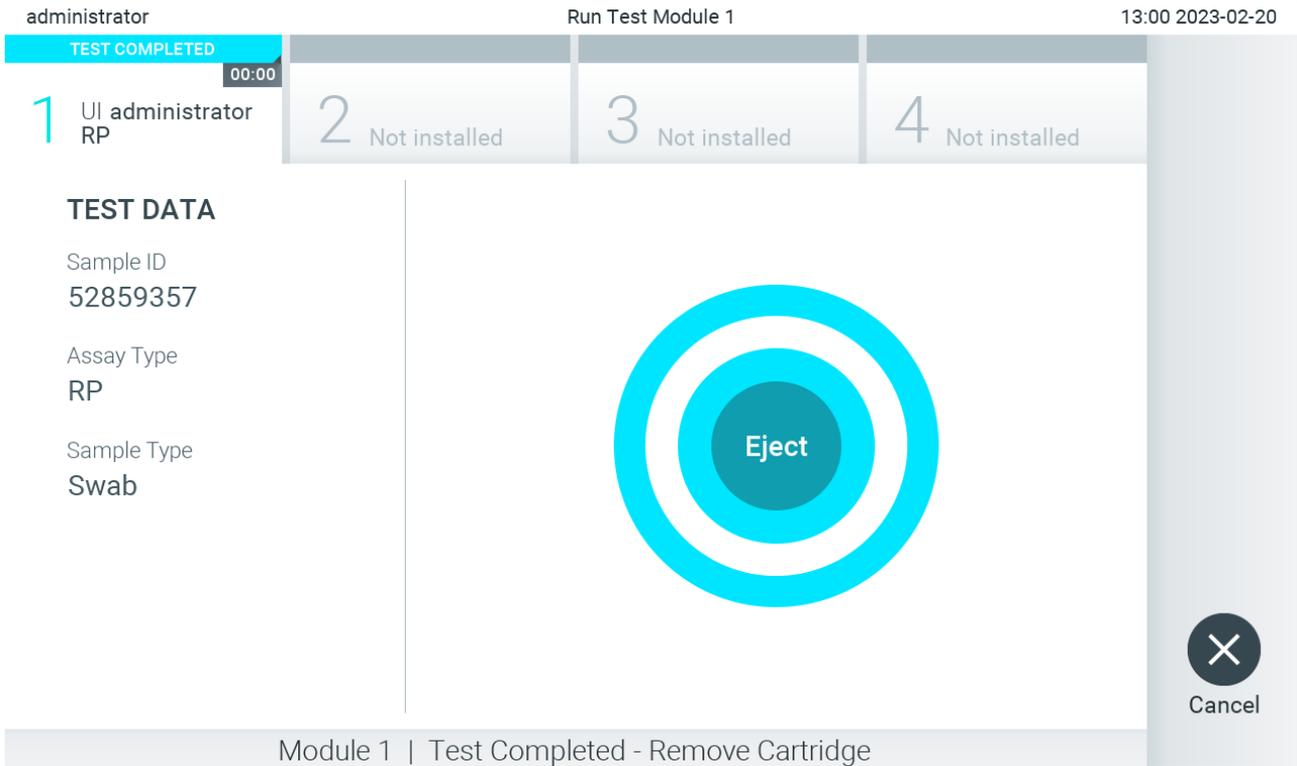

Figure 29. Eject screen display.
10. After the test run is completed, the **Eject** screen will appear (Figure 29). Press  Eject on the touchscreen to remove the QIAstat-Dx assay cartridge and dispose of it as biohazardous waste in accordance with all national, state, and local health and safety regulations and laws.